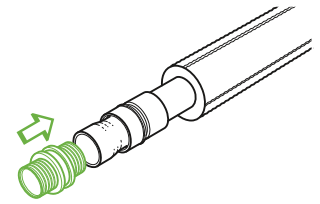

Fig. B10.3.4
7. Insert the inner coupler into the expanded pipe end (Fig. B10.3.4).